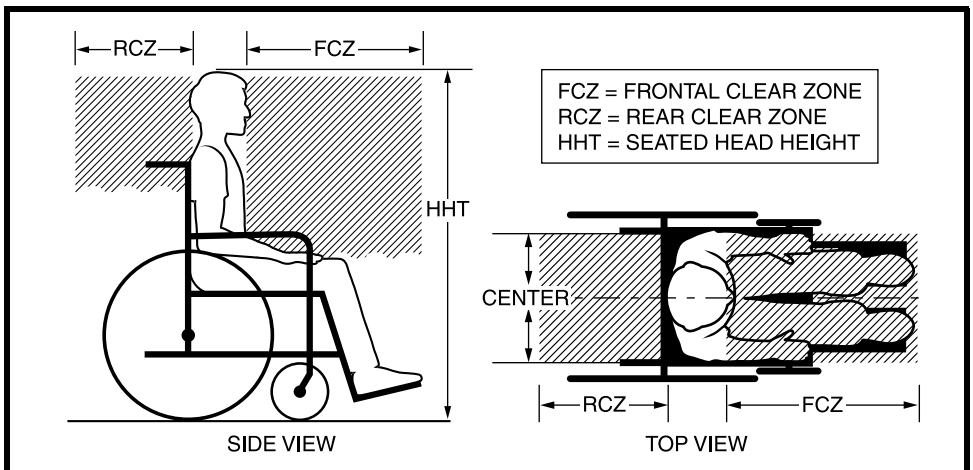

Figure 12. Recommended Clear Zones for Power Chair-seated Occupants
- Attach the four, six, or eight tie-down straps only to designated, labeled transit securement points indicated by anchor symbols on the power chair. See figures 3 through 10, and also figure 12. Tighten the straps to sufficiently remove all slack.
- The frontal clear zone (FCZ) is measured from the forwardmost point on the occupant's head and should measure at least 66 cm (26 in.) if both a pelvic and upper-torso belt are used. See figure 12.
- The rear clear zone (RCZ) is measured from the rearmost point on the occupant's head and should measure at least 40.64 cm (16 in.). See figure 12.
- The seated head height (HHT) ranges from about 120 cm (47 in.) for a small adult female to about 155 cm (61 in.) for a tall adult male. See figure 12.